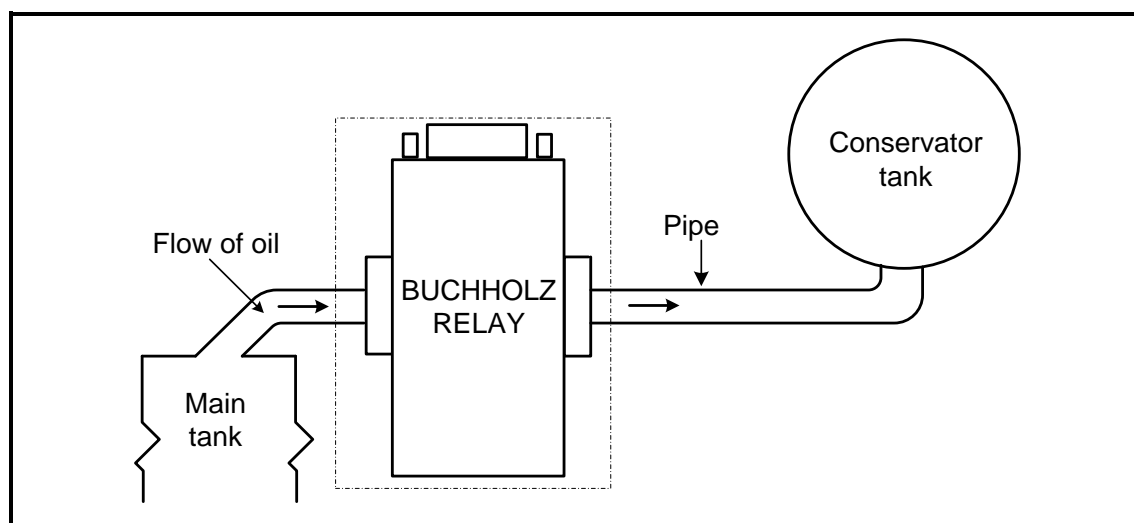

FIGURE 4.6: BUCHHOLZ RELAY
- 4.6 Refer to FIGURE 4.6 below and describe how the Buchholz relay would protect a transformer under minor and major faulty conditions.